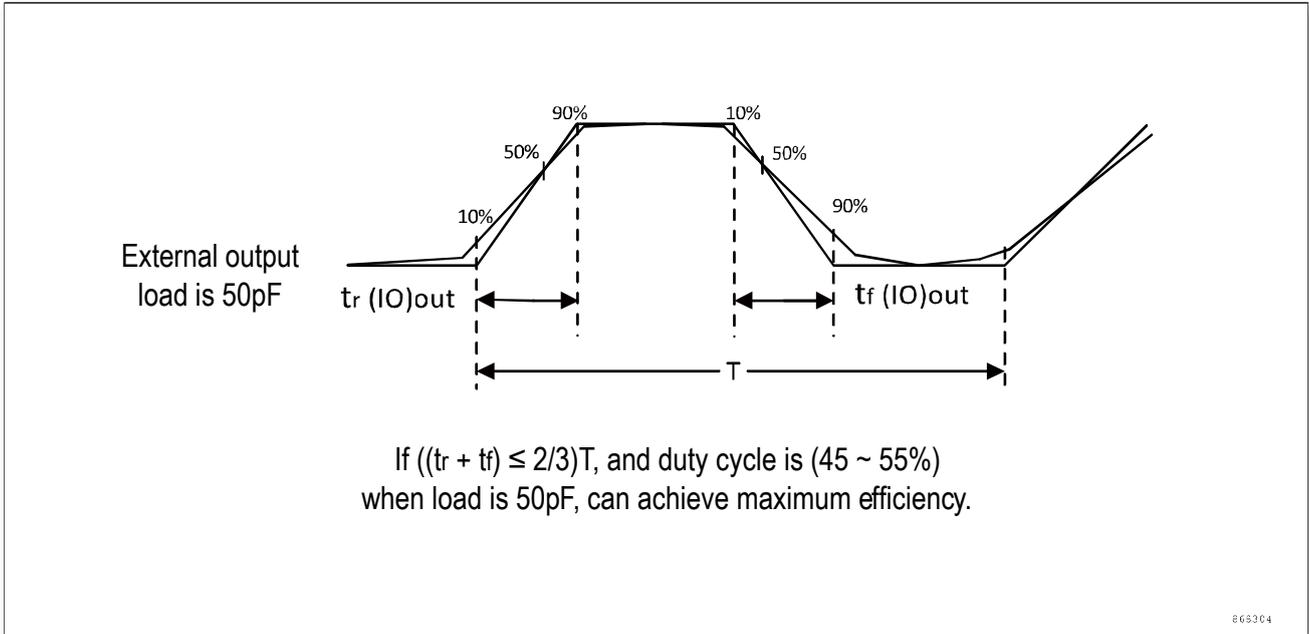

Figure 4-11 Input/output AC characteristics definition
The definition and values of input/output AC characteristics are given in Figure 4-11 and Table 4-27, respectively.
2. The maximum frequency is defined in Figure 4-11